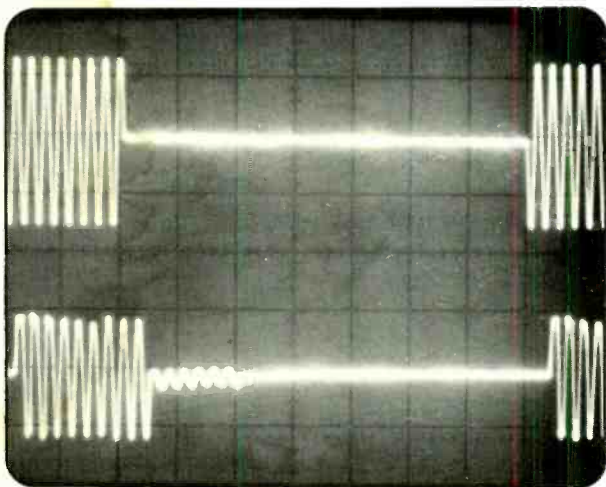

Fig. 2: Phase Linear 6000: Frequency response of delayed output using short (upper trace) or long (lower trace) primary delay settings.
**Test Results:** Published specs for the model 6000 generally were confirmed or exceeded in MR's lab tests, and the device's action confirmed as effective in listening tests. An idea of the bandwidth of the delayed sound in both the short and long delay modes can be had by examining the photo of frequency response sweep as stored on our spectrum analyzer (Fig. 2) which shows the (short) response down by -3 dB at 2 kHz. The manufacturer does not specify dB